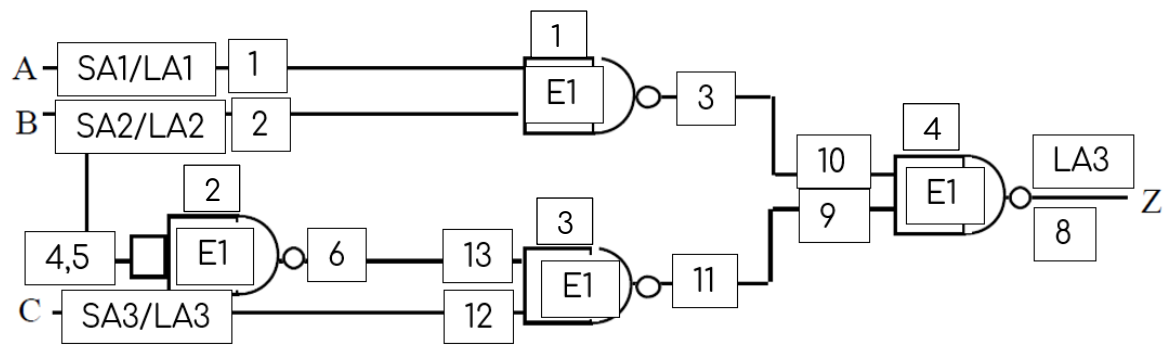

Figure 3 – Final implementation using NAND-NAND (GG.27) (part A)
A) Note that the output of Nand gates 1 and 2 (see Figure 3) take about 1 gate delay (max 20ns); the output of Nand gate 3 takes about 2 gate delays; and finally, the output of Nand gate 4 takes 3 gate delays because of all the circuitry that came before it. This means that whenever there is a change in A, B, or C there will always be uncertainty in what Z is for 60 ns. In other words, the output Z takes both 60ns to stabilize at both the falling and the rising edge of B, where the potential glitch could occur between 40-60ns (as the glitch occurs because of delay due to the immediate gate before it).